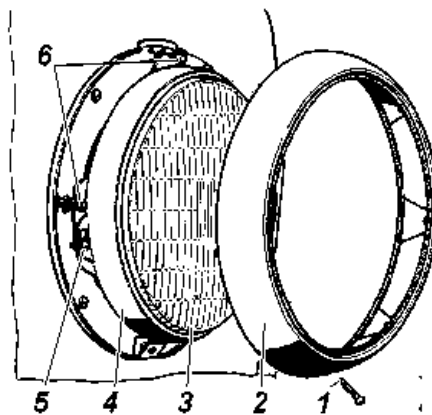
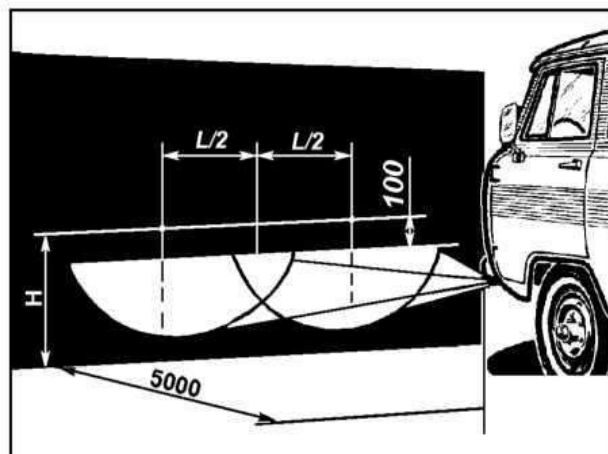

Fig. 9.38 Headlight:
Fig. 9.39 Screen marking for headlights adjustment:
To replace the lamp in the headlamp, it is necessary to unscrew screw 1 (Fig. 9.38) and remove ornamental ring 2. Loosen three screws 5 and remove the ornamental ring 4 with the optical element 3.
3. Turn on the dipped beam and, after closing one of the headlights, adjust the other with screws 6 (see Fig. 9.38) so that the light spot on the wall or screen is positioned as shown in Fig. 9.39. Headlight adjustment screws are located symmetrically to the center of the headlights in the horizontal plane.